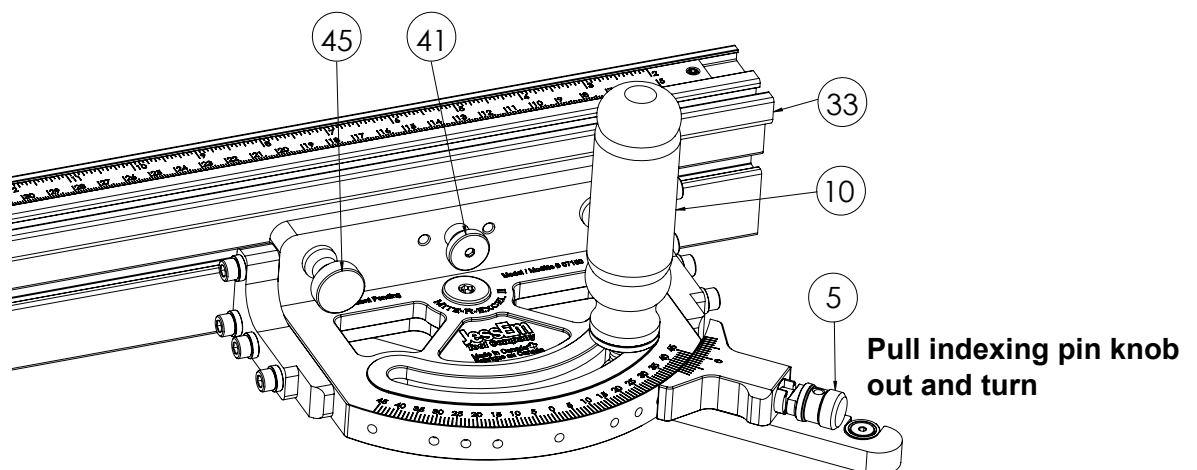

Figure 19
The example used below is setting the gauge to 45°. See **Figure 19**
- a. Loosen the Handle (Part #10). See **Figure 19**
- b. Pull the Indexing Pin Knob (Part #5) out and away from the gauge and turn it to disengage. This will now allow the gauge to rotate freely. See **Figure 19**
- d. Lock the Handle (Part #10) and leave the Indexing Pin Knob disengaged. See **Figure 19**